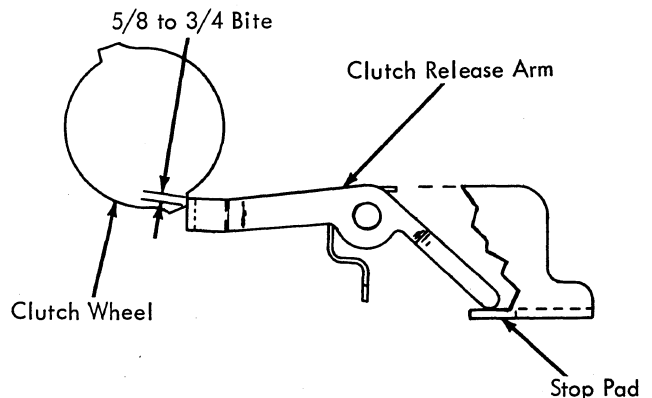

FIGURE 118. Stop Pad Adjustment
6. **Clutch Release Arm Stop Pad** (Fig. 118) - Form the stop pads so that with the clutch release arm at rest (against its stop pad) the clutch release arm has a 5/8 to 3/4 bite on the latching surface of the clutch wheel. This should be observed from the rear of the machine.